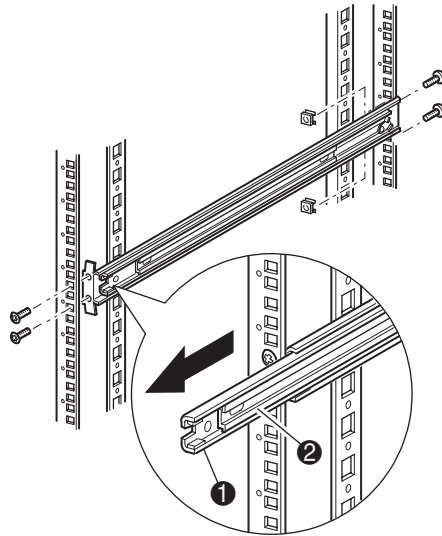

Figure 13: Installing the rails
3. Install the two slide-on clip nuts (previously marked using the template, two holes above the top bracket screw holes) on each of the front rack enclosure vertical rails (Figure 13).